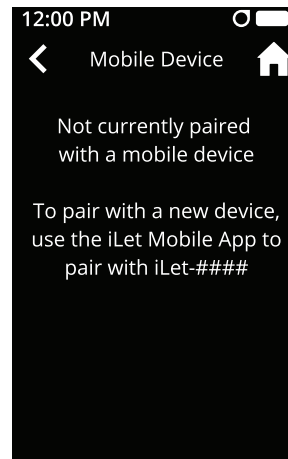

Figure 95
- c. Open the iLet Mobile App on your compatible device (see Figure 95).